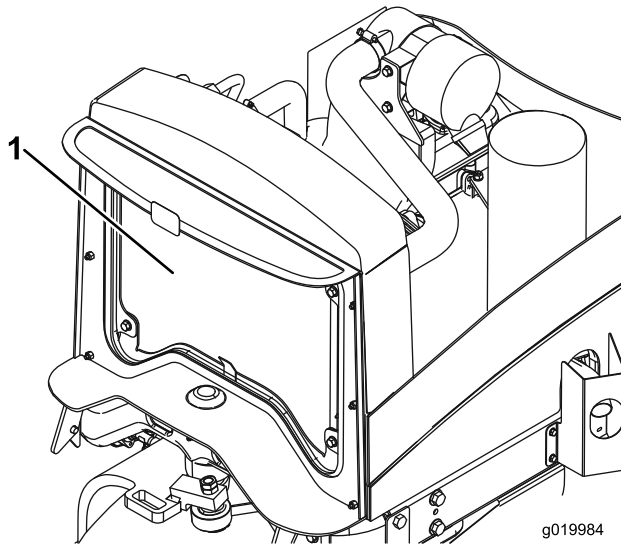

Figure 57
2. Clean both sides of the radiator/oil cooler thoroughly with compressed air (Figure 57).